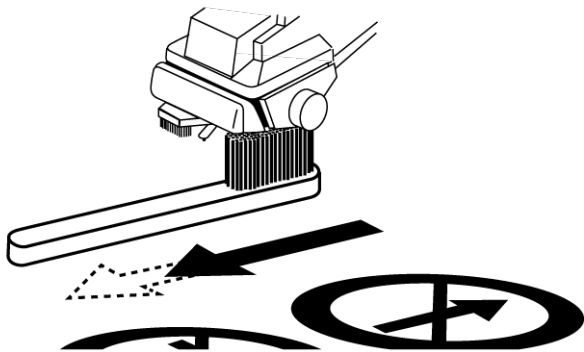

Figure 9
- Clean the stylus with the supplied cleaning brush. Brush from the back to the front only, as shown in Figure 9.